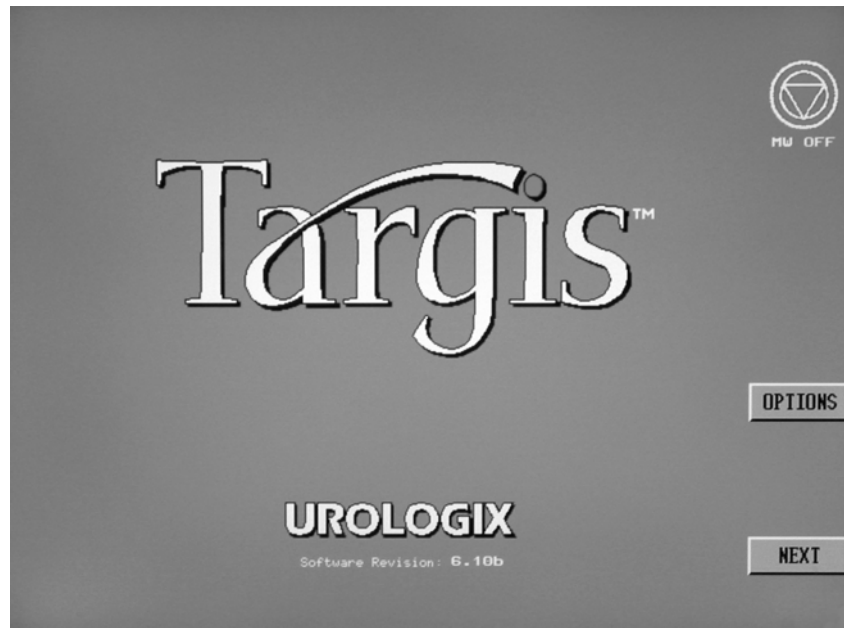

**Figure 2-1: Startup Display Screen**
1. Turn on the Targis Control Unit by pressing the ON / OFF switch (located on the right side of the unit) to the “|” position. The Control Unit then proceeds with its startup routine. Verify that the Startup display Screen (*figure 2-1*) is displayed on the monitor.